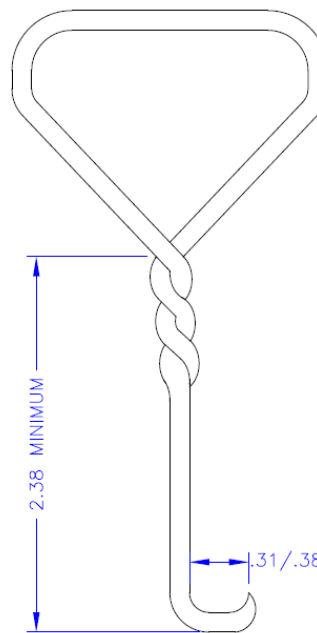

FIG. 1
- 7.0 SPECIAL TOOLS: From heavy stiff wire approximately 1/8" diameter fabricate a hook to pull the brush spring back. Sample Below FIG 1.
To remove a brush slip the brush hook (FIG. 1) under the brush spring. Slowly lift the spring only enough to clear the top of the brush, then pull the spring away from the brush just enough to slide the brush from the brush holder. Pull the spring away from the brush
REPLACEMENT: Slip the brush hook (FIG. 1) under the brush spring. Slowly lift the spring only enough to clear the top of the brush holder, then pull the spring away from the brush holder just enough to slide the brush into the brush holder. After the brush is in the holder place the spring lightly on the brush. Do this for each (2) carbon slab. Repeat this for all four brushes.